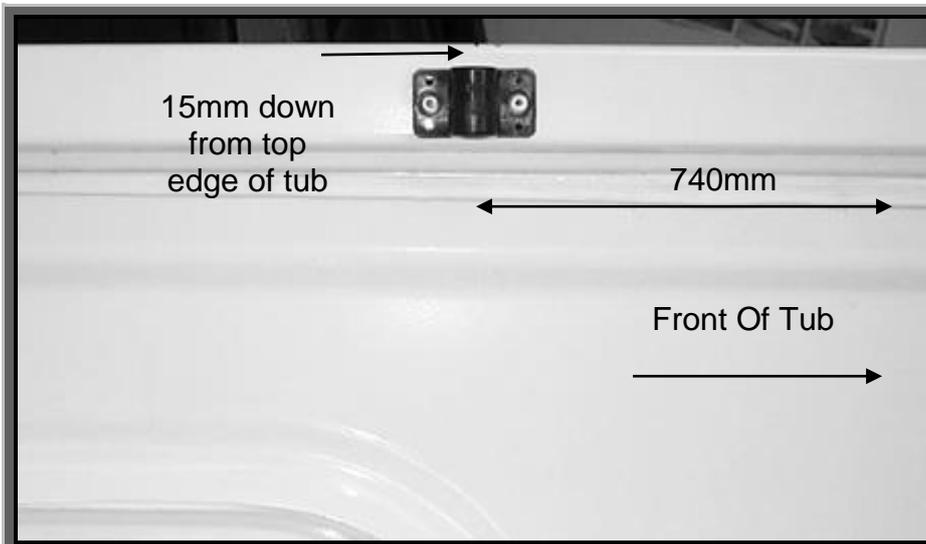

Figure 2
6. To fit the bar brackets, measure 740mm back from the inside front edge at the top of the tub and place them as shown in Figure 2. (15mm down from top edge of tub) Drill and rivet using two large rivets for each Bar Bracket. Install the support bar according to the supplied instructions.